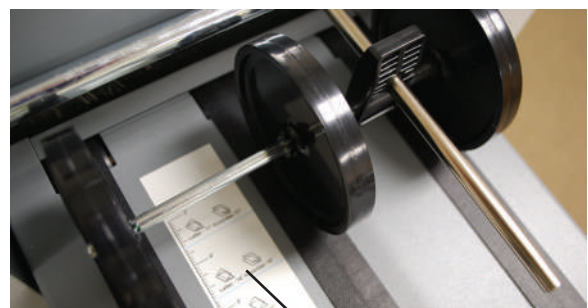

Fig. 7b
- 5b. Set the conveyor out feed wheels. Align the center of the out-feed stacker wheels with the appropriate fold/ form setting on the “Fold/form size decal” (Fig 7b).